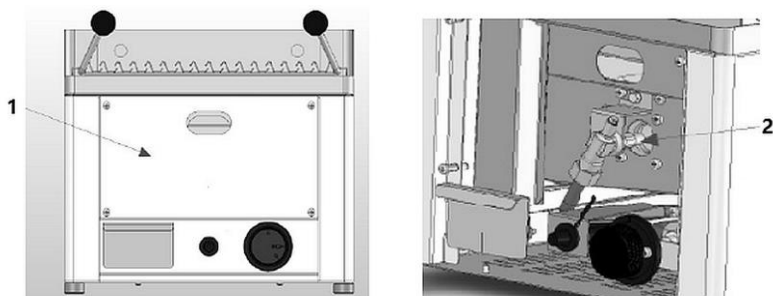

Fig. 3
- Replace the main burner's nozzle (2, Fig. 3)